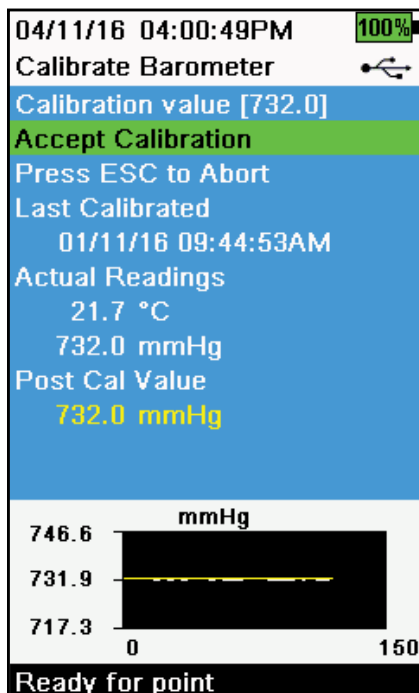

Figure 33 Calibrate Barometer
3. Select **Accept Calibration** (Figure 33). "Calibration successful!" will be displayed in the message area.